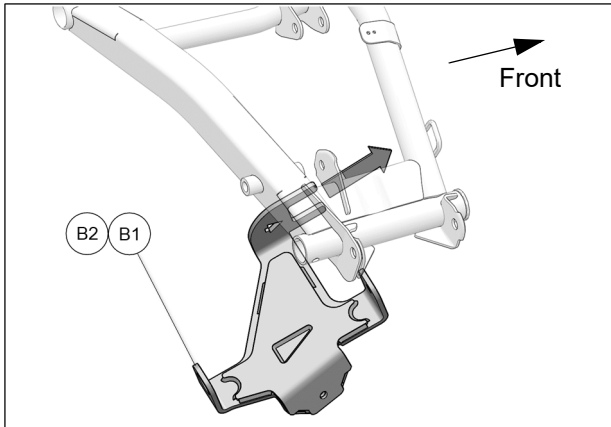

Fig. 5
6. Hook back of anchor bracket (B1-B2) up to lower suspension arm member that faces front. See Fig. 5